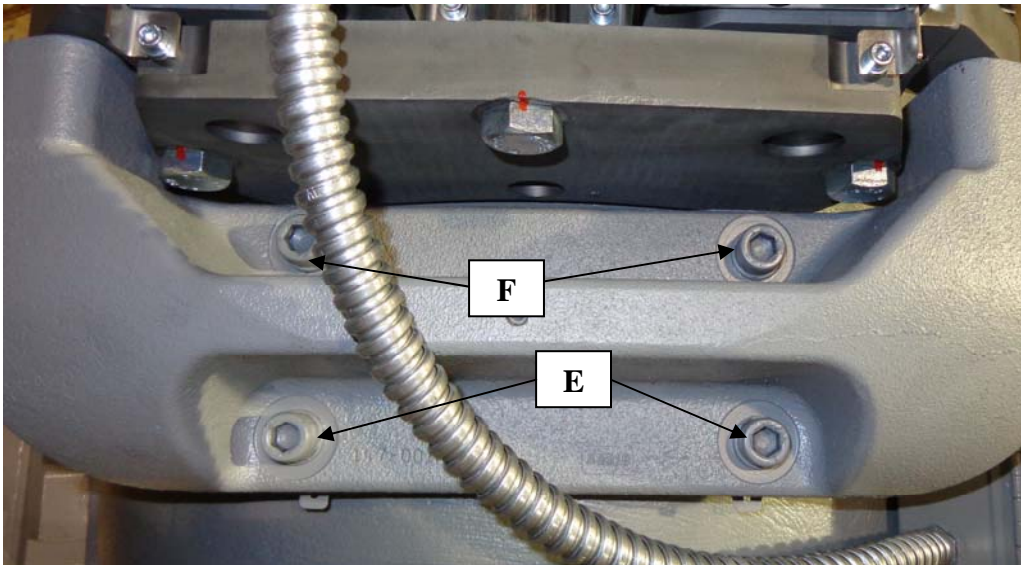

Figure 23
- With the Brake clamping the rotor (de-energized) Use a 1/2" Hex Wrench to loosen (4 per brake) socket head screws "E" & "F" shown in Figure 23.